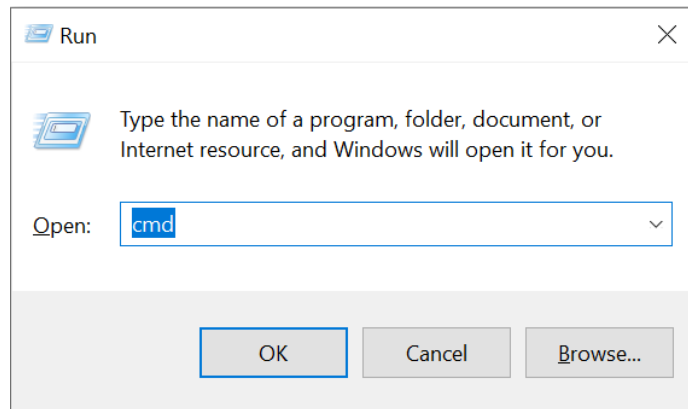
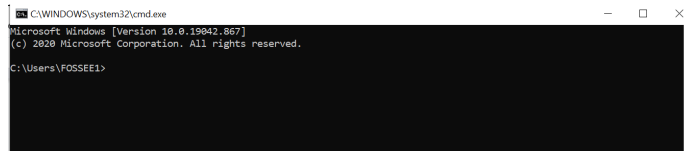

Figure 3.25: Launching the Command Prompt on Windows
Figure 3.26: Command Prompt on Windows
1. Launch the Command Prompt. Press the Windows key+R together. A window, as shown in Fig. 3.25 appears. In the text box adjacent to **Open**, type **cmd**, and press Enter. The Command Prompt, as shown in Fig. 3.26 appears. By default, it points to the home directory.
1. Launch the Command Prompt, as shown in Fig. 3.25.